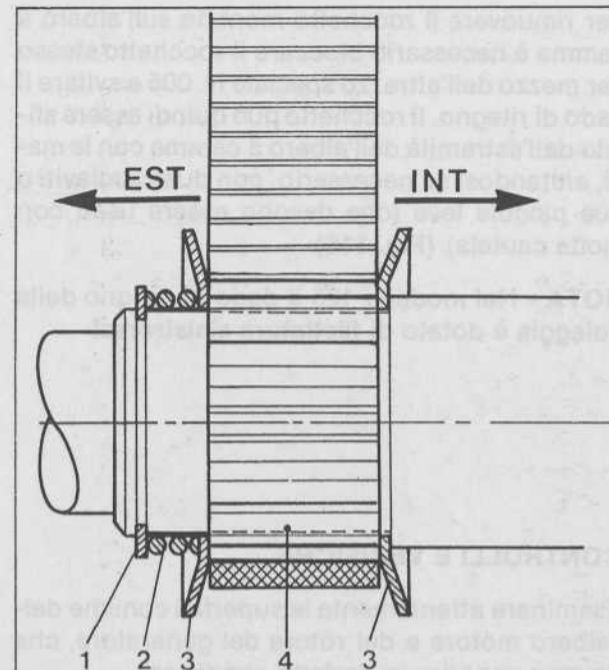

Fig. 117/A
Fit the inner guide plate the right way round (the plate should be fitted as shown in Fig. 117/A, with the curved edge towards the crankcase) onto the crankshaft and install the pulley taking care to place it with the reference mark facing outwards and **in line with the keyslot (1) (Fig. 117/B).**